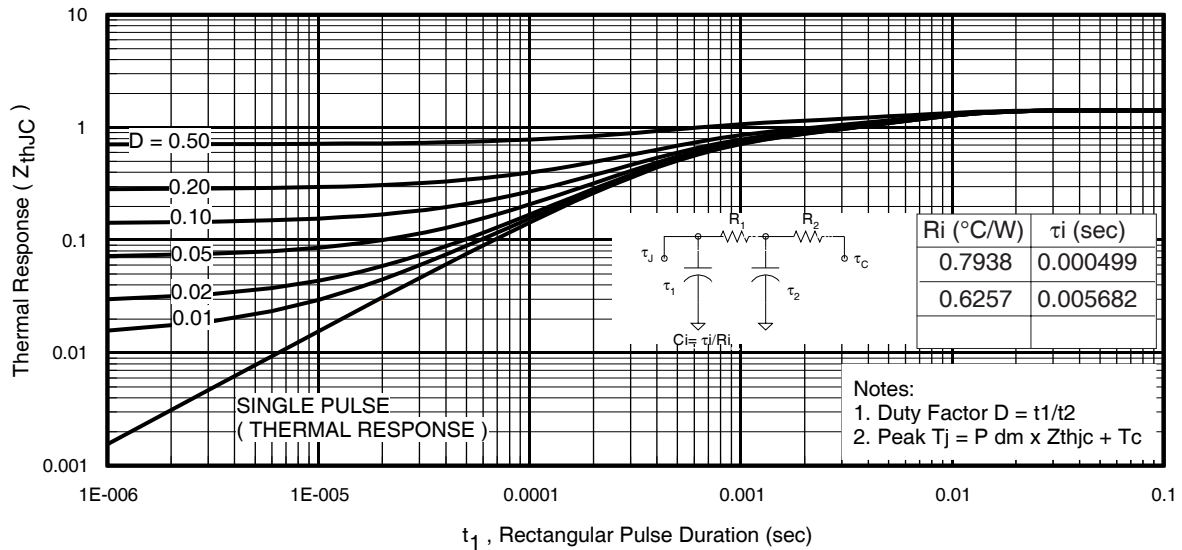
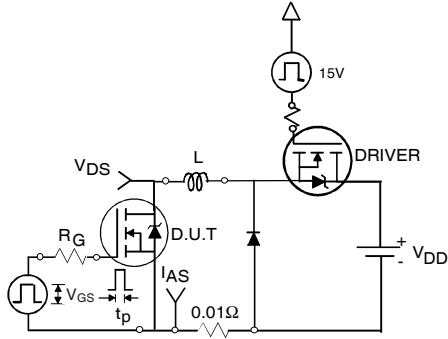

Fig 11. Maximum Effective Transient Thermal Impedance, Junction-to-Case
Fig 12a. Unclamped Inductive Test Circuit
3. Equation below based on circuit and waveforms shown in Figures 12a, 12b.
$Z_{thJC}(D, t_{av})$ = Transient thermal resistance, see figure 11)
- ① Repetitive rating; pulse width limited by max. junction temperature. (See fig. 11).
- ② Limited by T_{Jmax} , starting $T_J = 25^\circ\text{C}$, $L = 0.197\text{mH}$, $R_G = 25\Omega$, $I_{AS} = 32\text{A}$, $V_{GS} = 10\text{V}$. Part not recommended for use above this value.
- ③ Pulse width $\leq 1.0\text{ms}$; duty cycle $\leq 2\%$.
- ④ C_{OSS} eff. is a fixed capacitance that gives the same charging time as C_{OSS} while V_{DS} is rising from 0 to 80% V_{DSS} .
- ⑤ Limited by T_{Jmax} , see Fig.12a, 12b, 15, 16 for typical repetitive avalanche performance.
- ⑥ This value determined from sample failure population. 100% tested to this value in production.
- ⑦ When mounted on 1" square PCB (FR-4 or G-10 Material). For recommended footprint and soldering techniques refer to application note #AN-994
- ⑧ R_θ is measured at T_J approximately 90°C